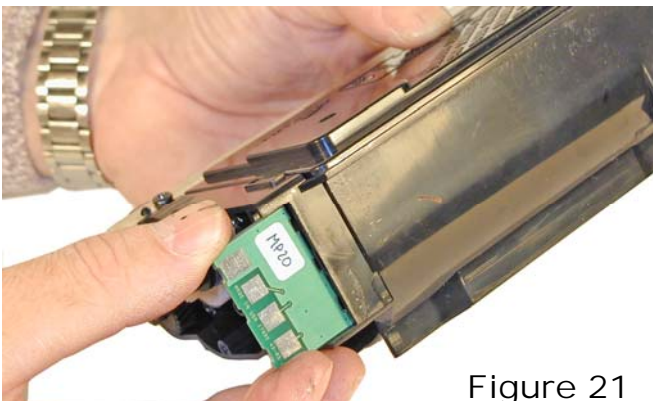

Figure 21
18) Replace the chip. See **Figure 21**